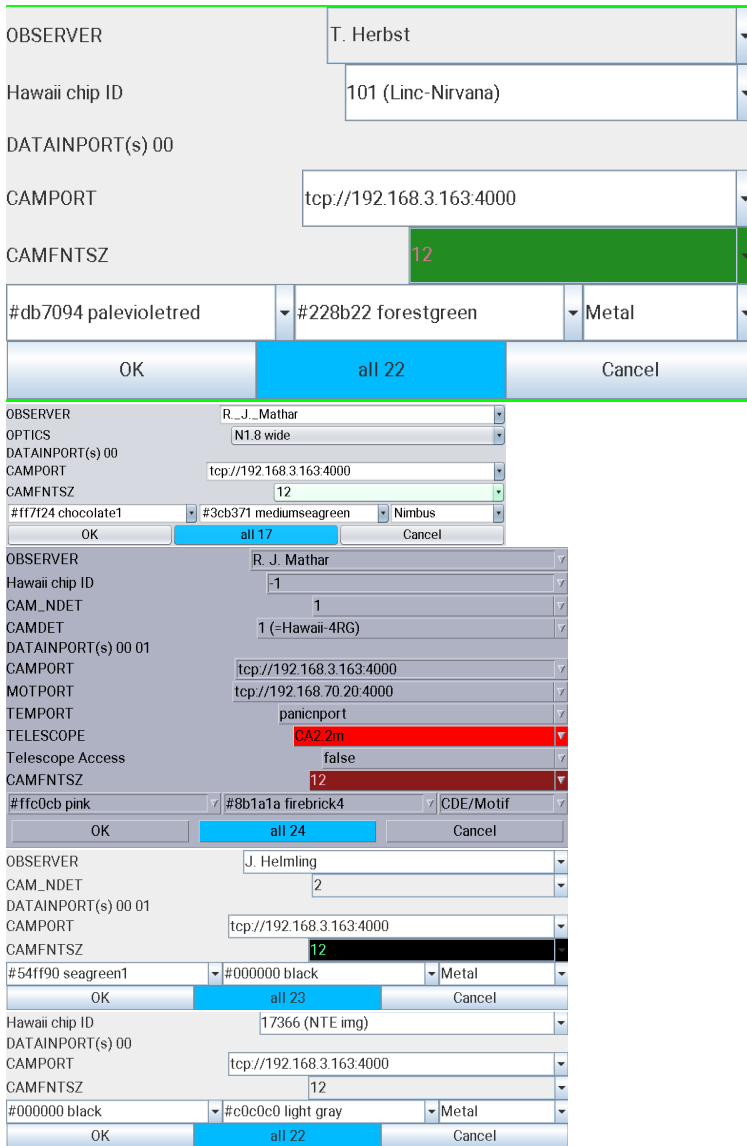
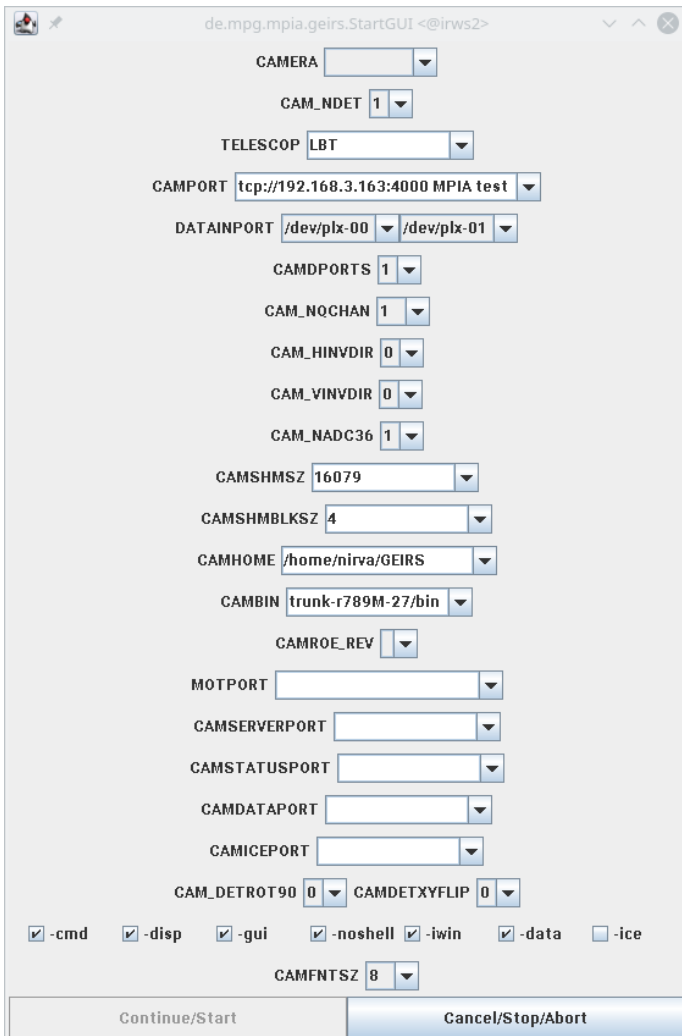

Figure 10: Startup screen to start GEIRS. Which of these layouts appears depends on the instrument.
Figure 11: Engineering startup with `geirs_start`.
**TELESCOPE** The label of the observatory, which is used to set the geographic coordinates and to convert from equatorial to topocentric coordinates. Only a few fixed strings are supported: LBT, CA3.5m, CA2.2m, NOT, Lab, and some obsolete others. Using `geirs_start_gen` makes sense for the CAHA startup for PANIC,because this offers both the 3.5 and the 2.2 m telescope for interactive selection in the startup screen (Figure 10).
2. modifications of the environment variables by the engineering GUI in Figure 11;
4. modifications of the availability of subsystems (simulation) defined in the GUI in Figure 10;
If no command line option is used, four of them are implicitly activated. If the *-iwin* option was present (explicitly or implicitly), it commences with the start-up screen of Figure 10. The controls and/or the image GUI will be opened depending on the presence of the options *-gui* and/or *-disp*. The command server is started depending on the presence of the option *-cmd*. The *-gui* option works only if the command server is either started here or already running. The data server is started depending on the presence of the option *-data*. The real-time display requires that the data server is run.
Some parameters may be edited in Figure 10 at this time:
The GUI in Figure 10 allows essentially to move subsystems into simulation mode. If you are not satisfied with some of the selectable parameters, you need to start from scratch, either with Figure 11 or by explicitly setting the shell variables before using the start-commands of Section 4.1.
The GUI in Figure 10 uses a countdown of 20 seconds, where the remaining time is indicated in the label of the `all` button. If no button is pressed to change the configuration within that time interval, it will continue to start (or fail to start) GEIRS with the currently selected set of parameters.30
After you press `all` in Figure 10, the subsystems (most noticeably the ROE) are initialized and the GEIRS window of Figure 12 will appear. At that time all (recent) instrument patterns send commands to the ROE which switch most of the ROE’s LED’s off. The LED’s of the network card of the ROE cannot be manipulated by these software means (and must be taped to shield their light).
If some subsystems of GEIRS, like the ROE, the Motors or the Telescope are set to the simulation state in Figure 10, some parts of the GUIs described in this manual display yellow backgrounds in menus to provide a visual warning that the corresponding section of the action or information is in some state of software emulation/simulation.
which pops up similar to Figure 11. This allows *experienced* users to edit many parameters on a finer level without editing the `geirs_start_gen` script, but at a higher risk of starting GEIRS with modes that are not supported.
The program scans (pings) a list of fixed ROE IP addresses and puts those that seem to be online into the selector for the `CAMPORT`. It puts subdirectories of `CAMHOME` that look like compiled GEIRS versions into the `CAMBIN` selector. If the `Continue/Start` button is pressed, the program sets some of the environment variables mentioned in Section 3; labels in the GUI and environment variables correspond to each other. Then it calls the shell script `scripts/geirs_start_gen` with the options set in the third but last line of Figure 11. See Section 5.5 for the meaning of the `geirs_start_gen` options. The principal rationale for having this GUI is that one can